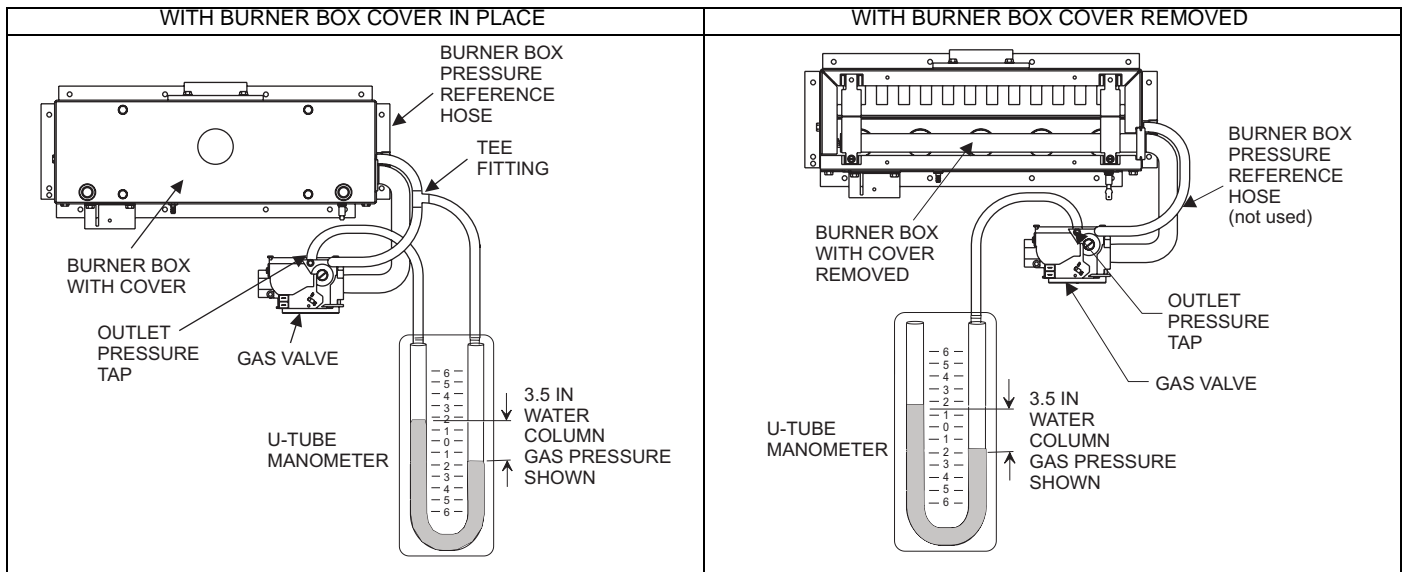

FIGURE 26: Reading Gas Pressure
Manifold gas pressure may be measured by two different procedures. It may be measured with the burner box cover in place or it may be measured with the burner box cover removed. Follow the appropriate section in the instructions below. Refer to Figure 26 for a drawing of the locations of the pressure ports on the gas valve.
- E. Use the 5/16" (7.94 mm x 1/8" (3.175 mm) reducing coupling and a 4" (101.6 mm) piece of 1/8" (3.175 mm) tubing to connect the positive side of the manometer to the gas valve pressure reference port. Refer to Figure 26 for connection details.
Reading the gas pressure with the burner box cover removed - Remove the screws securing the burner box front cover plate. Remove the cover. The gasket and may stick in place. Connect the positive side of the manometer to the gas valve as described in E above. There will be no second connection to the manometer, as it will reference atmospheric pressure. Refer to Figure 26 for connection details.